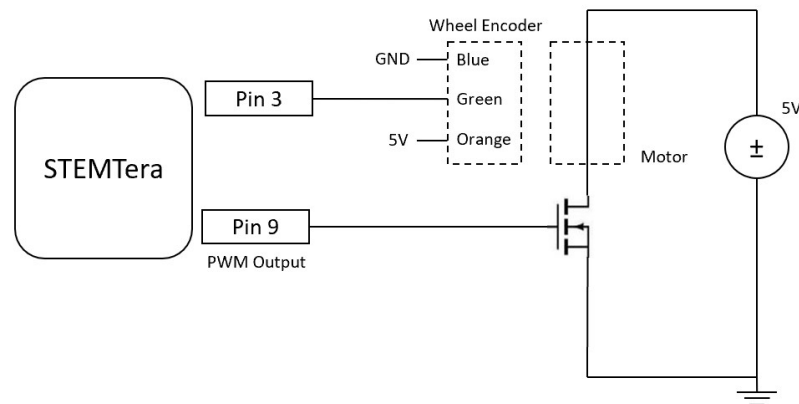

Figure 2. Motor closed loop proportional speed control circuit using STEMtera, DC motor and encoder (4 magnet disk and Hall effect sensor).
- Build the motor circuit (Fig. 2) used in the MOSFET lab exercise. You don't need to include a low-pass filter this time. Recall the MOSFET controls gate voltage to amplify the STEMtera output current to drive your DC motor.